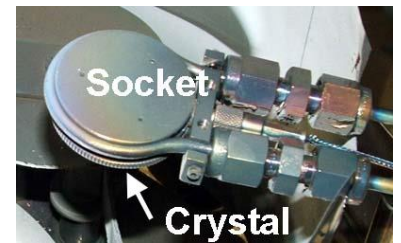

Fig 1
1. Carefully pull crystal housing from electrical socket. [Fig 1]